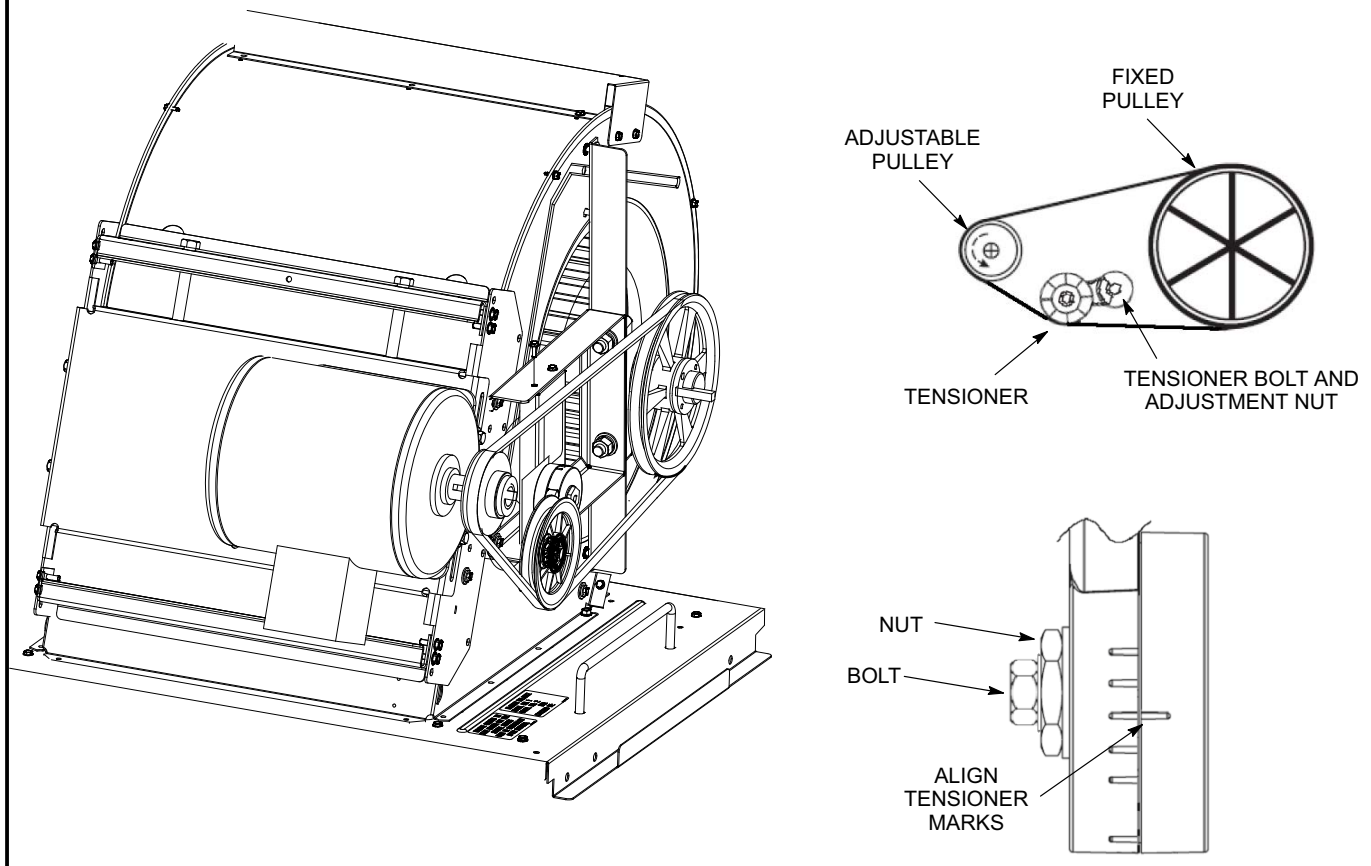

FIGURE 14
- 1 Loosen the bolt in the center of the tensioner. See figure 14.
- 3 Using a 15/16" wrench, turn the tensioner nut until marks align as shown in figure 14.